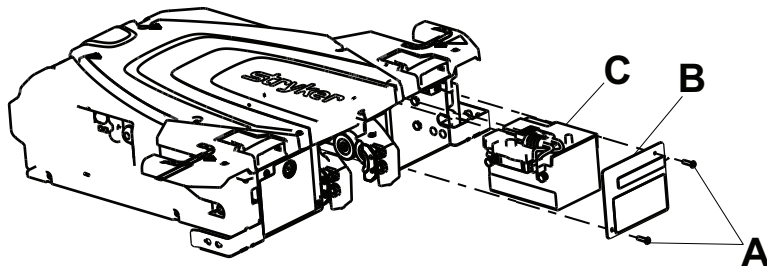

Figure 38 – Battery housing components
2. Using a T25 Torx driver, remove the two button head cap screws (A) that secure the rear trolley plate cover (B) to the trolley frame (Figure 38). Remove the cover.
3. Pull to remove the battery housing assembly (C) (Figure 38).
3. Using a 3/16" hex wrench, remove the fill plug (D) (Figure 38). See *Battery replacement* (page 54).